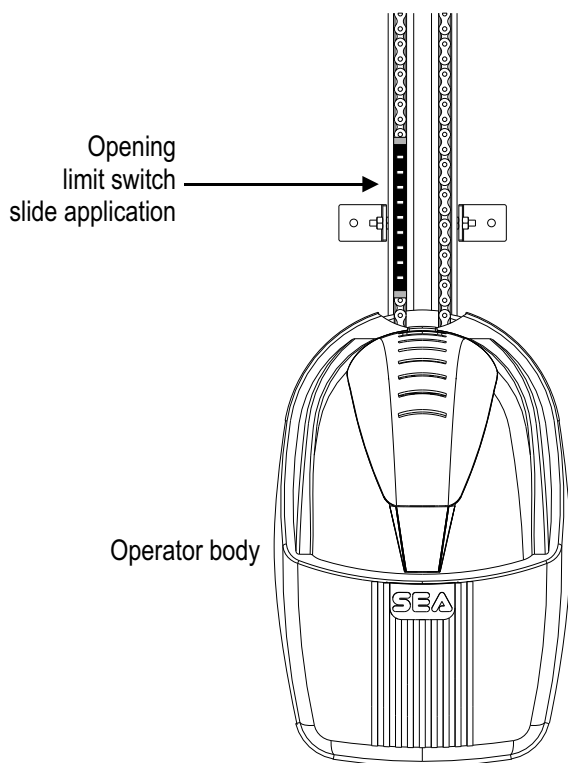

Fig. 19a
- fix the limit switch slide (Fig. 18) as near as possible to the operator body near the switch wheel as shown in Fig. 19a